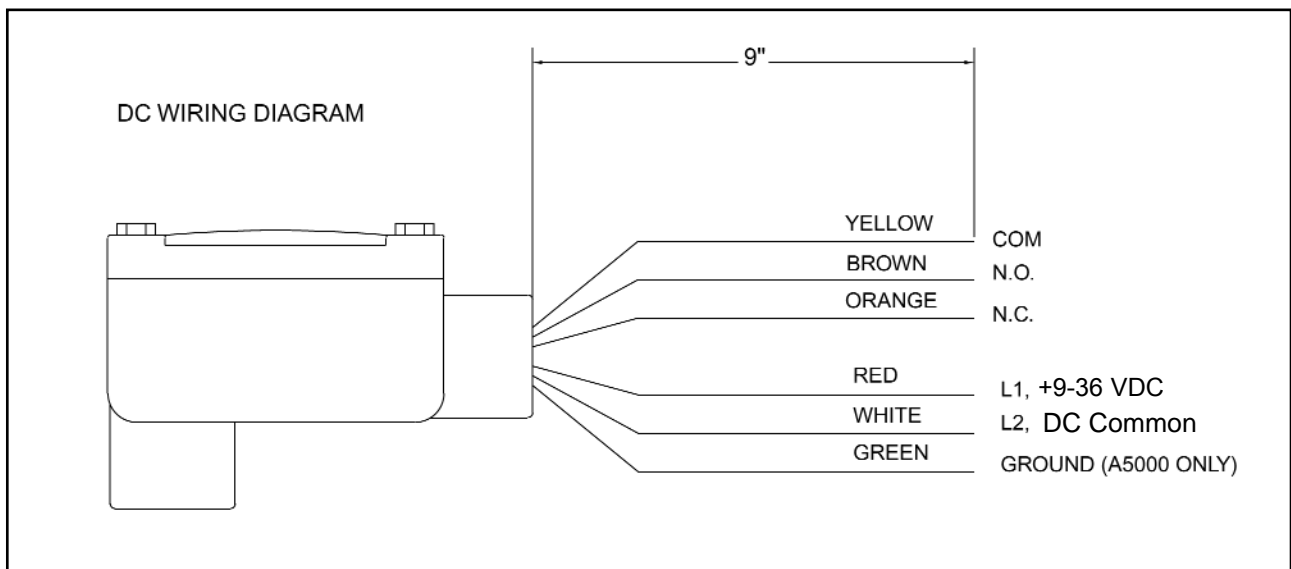
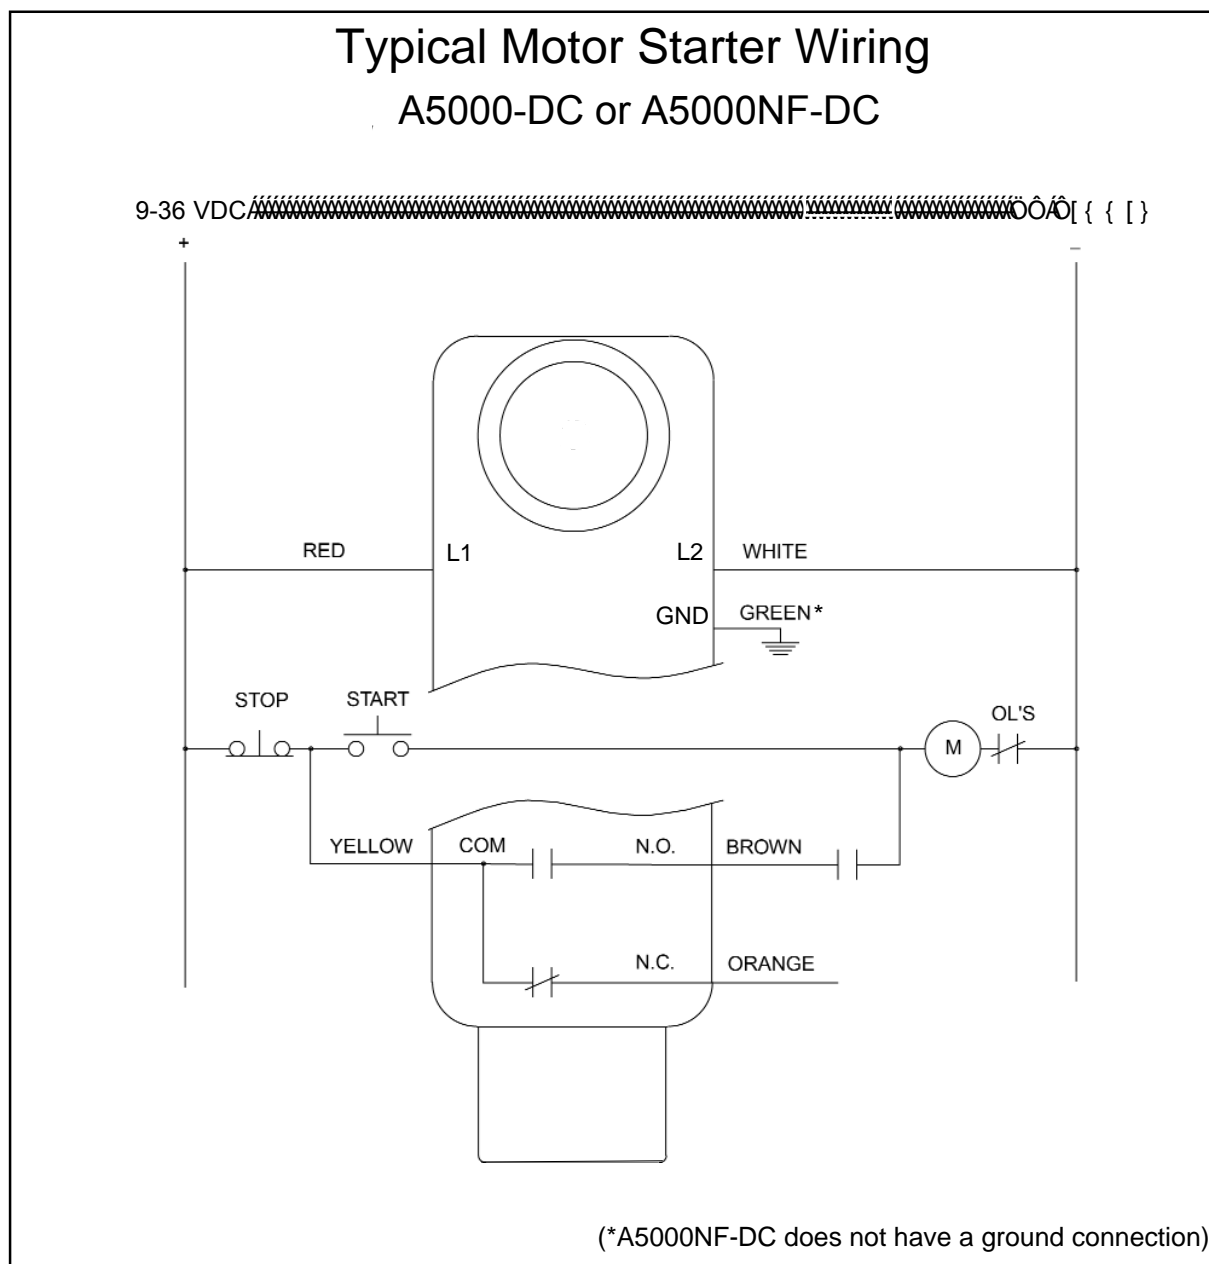

Figure 3
Figure 4
5.1 Power connections and relay connections to the A5000-DC or A5000NF-DC zero speed switch are shown on figure 3, page 4. Also, figure 4 & 5, page 5 & 6 show typical wiring diagrams.
5.2 Connect 9-36 VDC to L1 (red, +) and L2 (white, -). Connect the equipment safety ground to the GREEN wire on the A5000-DC. (The A5000NF-DC does not have a ground connection, see figure 3, page 4).